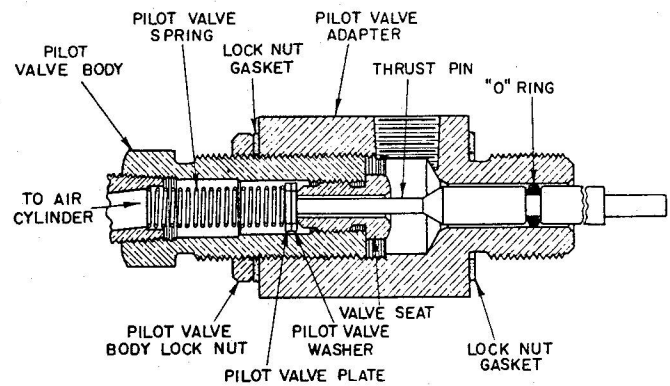

Fig. 32 Disc Type Outside Exhaust Pilot Valve.
To adjust the stroke of the pilot valve shown in Figure 32, follow the measuring and adjustment technique outlined in paragraph 47, and proceed as follows: Loosen the pilot valve lock nut and screw pilot valve body in or out until the 1/16" stroke is reached. Then tighten the lock nut and replace the elbow and spring.
52. PILOT VALVE Disc Type Outside Exhaust (Similar to valve shown in Figure 32).